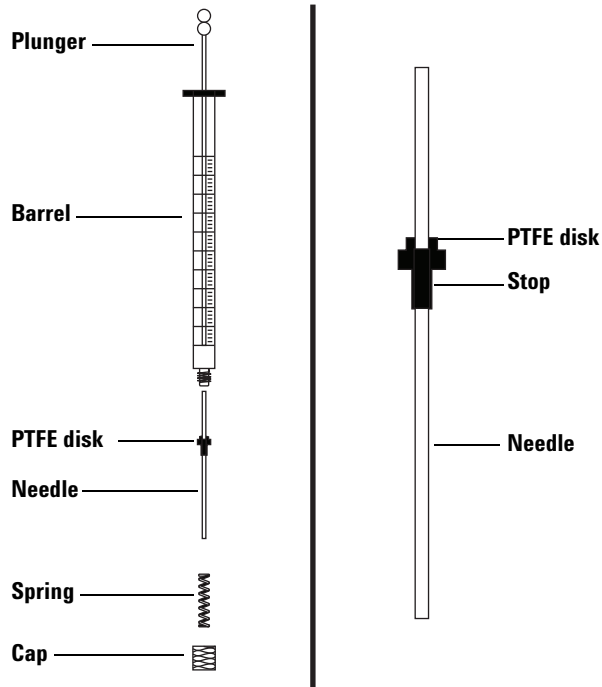

Figure 48 Syringe parts
To insert a needle into a syringe barrel (Figure 48):
- 2 Make sure the needle has a PTFE disk (Figure 48). If the syringe barrel does not have the PTFE disk, use the instructions in the syringe box to wrap the needle yourself.